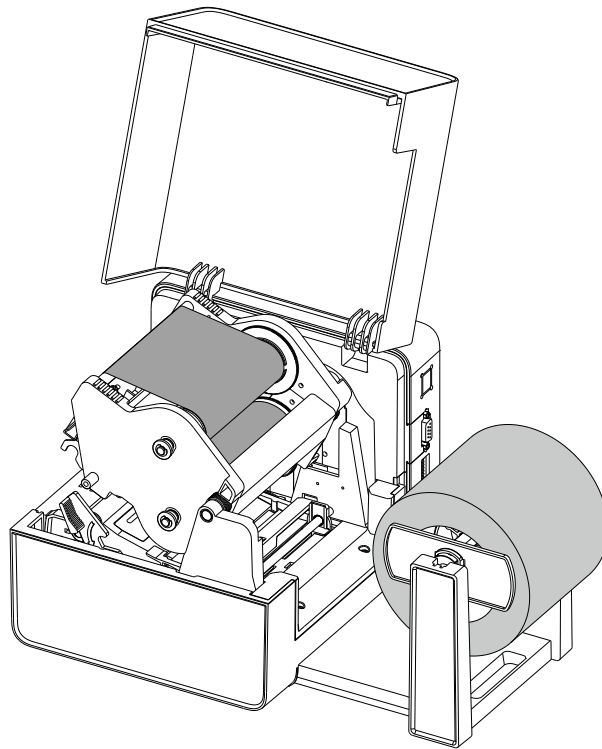

Figure 2-15 Load the Media
4. Position the media roll in the middle of the Spindle, using the ruler on the Media Spindle for alignment, see Figure 2-15.